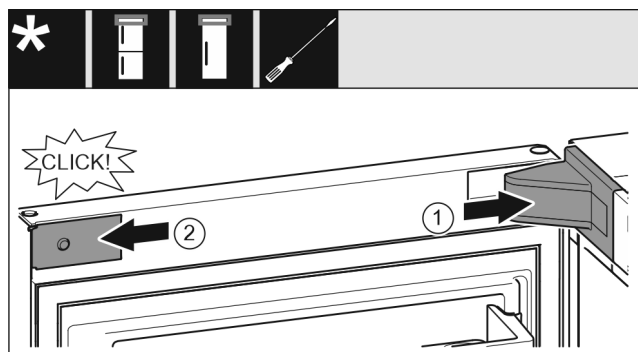

Fig. 19
- ▶ Put the swap bearing block cover Fig. 19 (1) on and engage, push apart carefully if required.
- ▶ Place the trim Fig. 19 (2) on the side and engage.